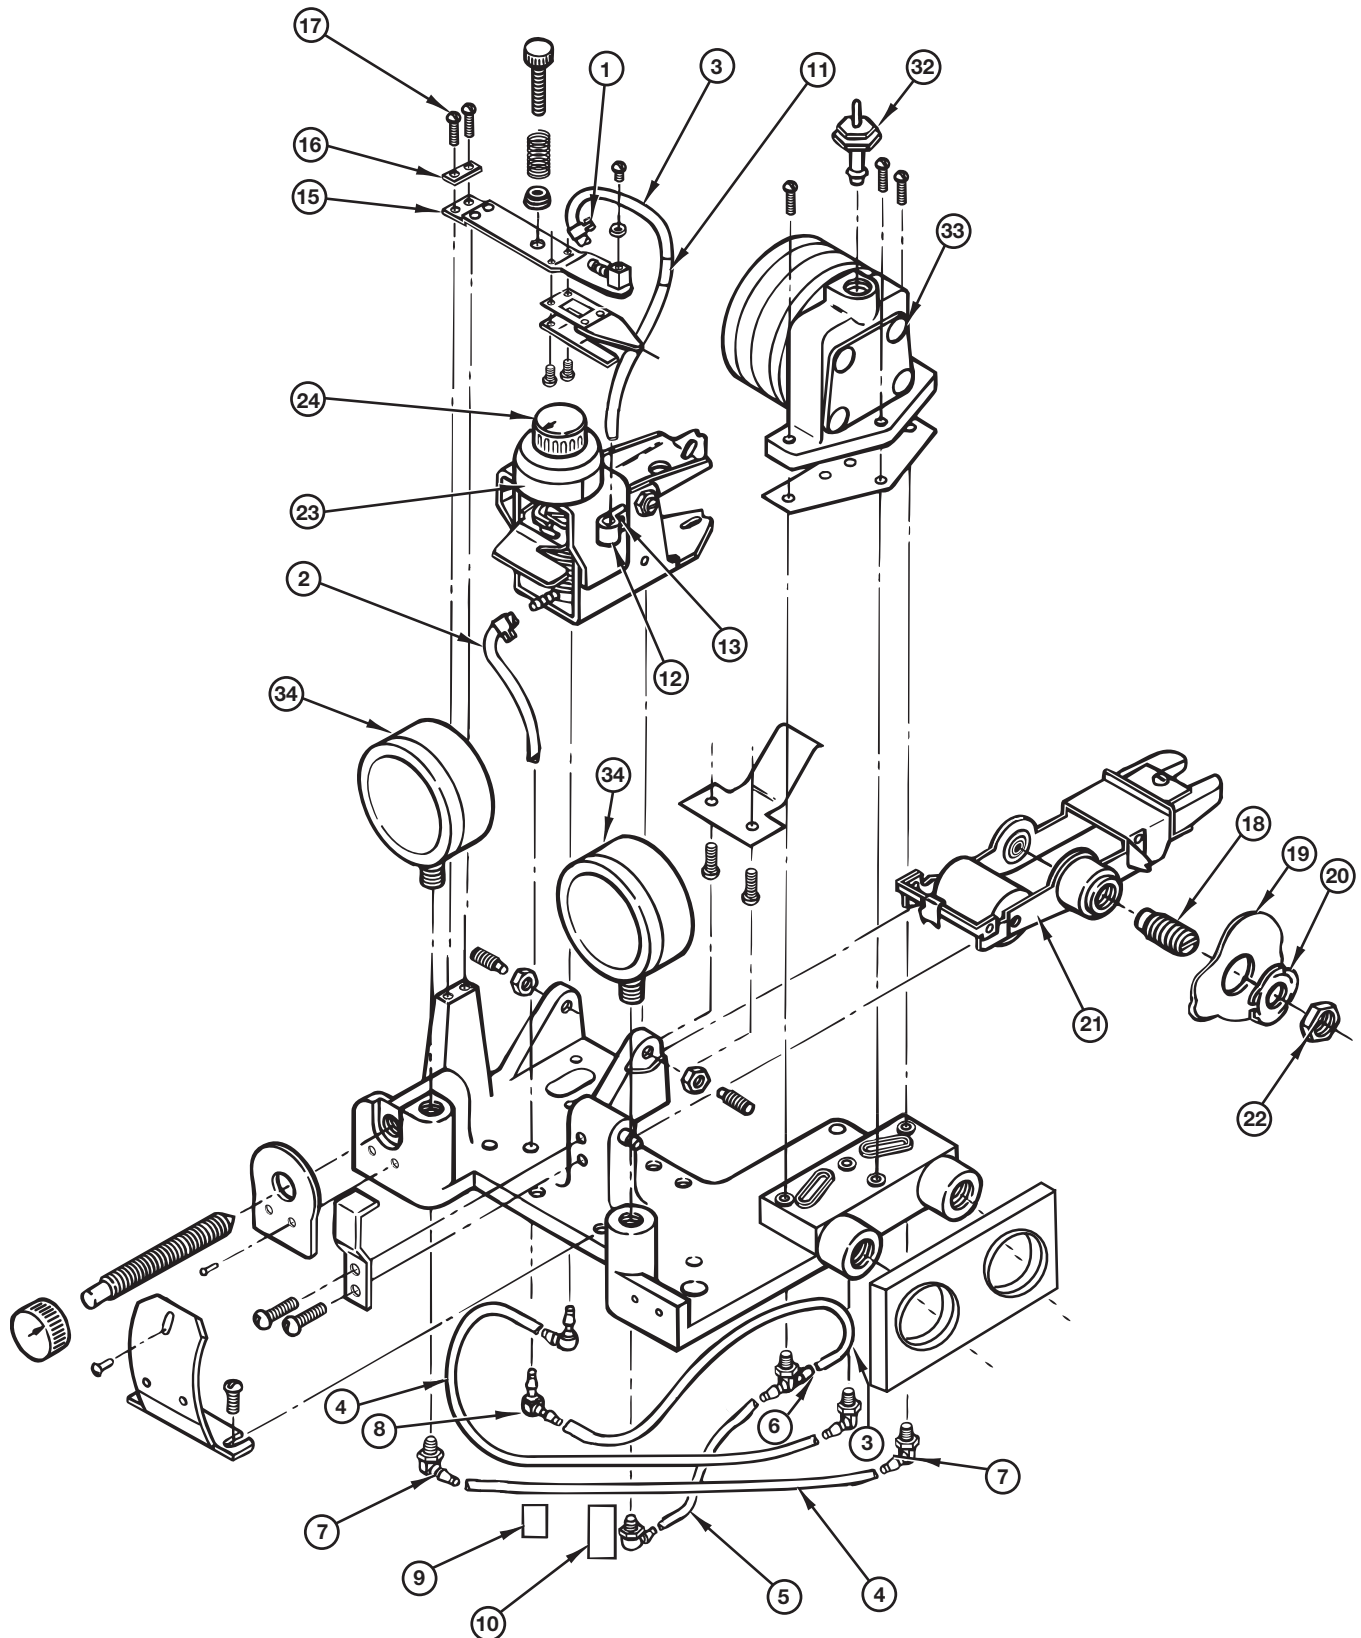

Figure 37
3.3.6.1 Controller Replacement Assemblies Parts Identification (See Figures 37 & 38)
3.3.6.2 Tubing Kit 89-8501-015^② @ 3-15 and 6-30 psig (See Figure 37)
3.3.6.3 Nozzle Lever Kit 89-8501-002^④ @ 3-15 and 6-30 psig (See Figure 37)
3.3.6.4 Carriage Assembly Kit 89-8501-003^④ @ 3-15 and 6-30 psig (See Figure 37)
3.3.6.5 Feedback Assembly Kit 89-8501-005 @ 3–15 psig and 89-8501-006 @ 6–30 psig (See Figure 37)
3.3.6.7 Additional Replacement Parts (See Figures 37 & 38)